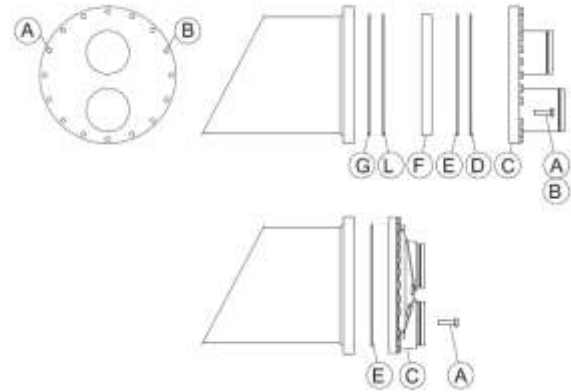

Figure 3
3. Replace A and B screws with 2 centering pins (Figure 3);